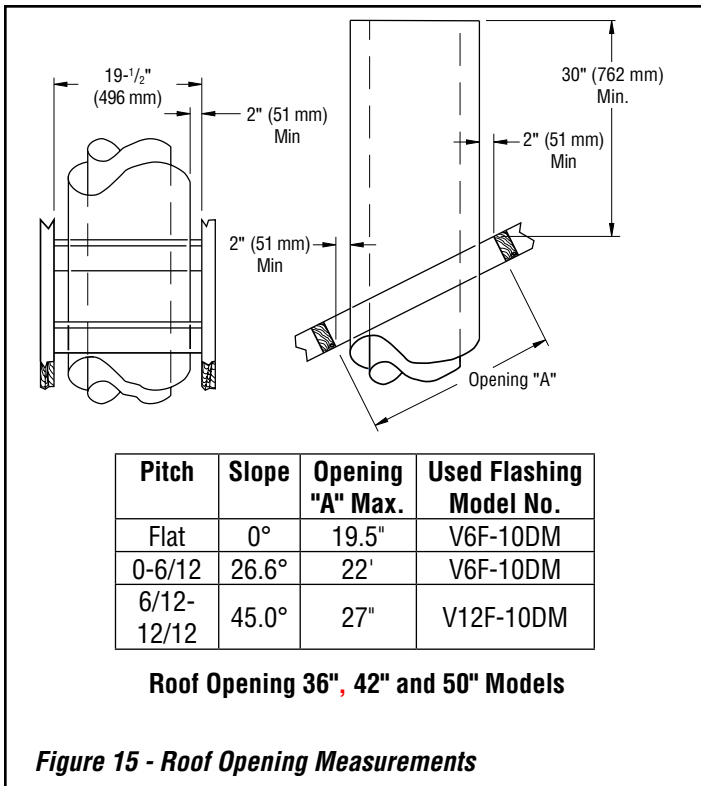

Figure 15 - Roof Opening Measurements
3. Use roof opening chart (**Figure 15, Page 12**) to determine correct opening length and flashing required.